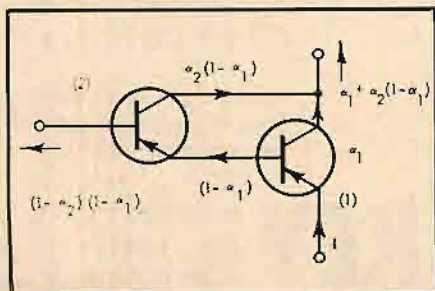

Fig. 6. The behavior of the pair is revealed by the current relationships.
The build-up of the analysis was done in drawing Fig. 6. If the emitter current of transistor (1) is 1, the collector current is α_1 and the base current is $(1 - \alpha_1)$. This base current is the emitter current of transistor (2) which therefore has a collector current of $\alpha_2(1 - \alpha_1)$ and a base current of $(1 - \alpha_2)(1 - \alpha_1)$. The total current passed by the two collectors is $\alpha_1 + \alpha_2(1 - \alpha_1)$ or $\alpha_1 + \alpha_2 - \alpha_1\alpha_2$, and the over-all current gain is very close to $1/[(1 - \alpha_1)(1 - \alpha_2)]$ so long as α_1 and α_2 are near unity. We think nothing of current gains of the order of 1000.